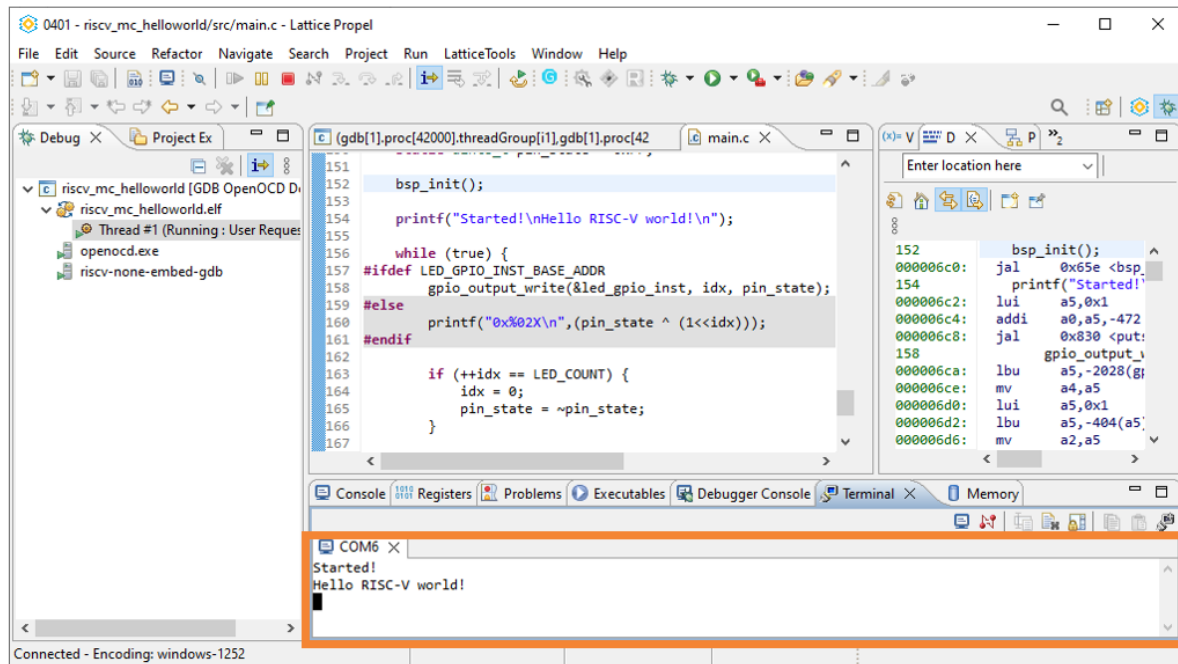

Figure 6.19. Run Result of Hello World Project
- Click the **Resume** icon  on the toolbar. The serial terminal output is shown in Figure 6.19.